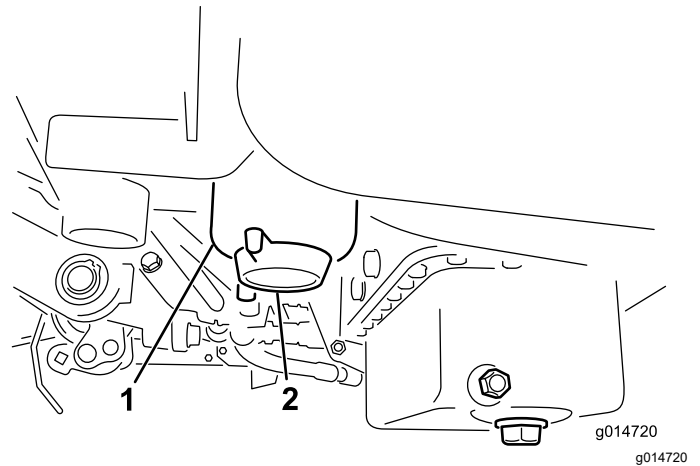

Figure 31
3. Open the drain plug on the fuel filter approximately one turn and drain any accumulated water (Figure 31).